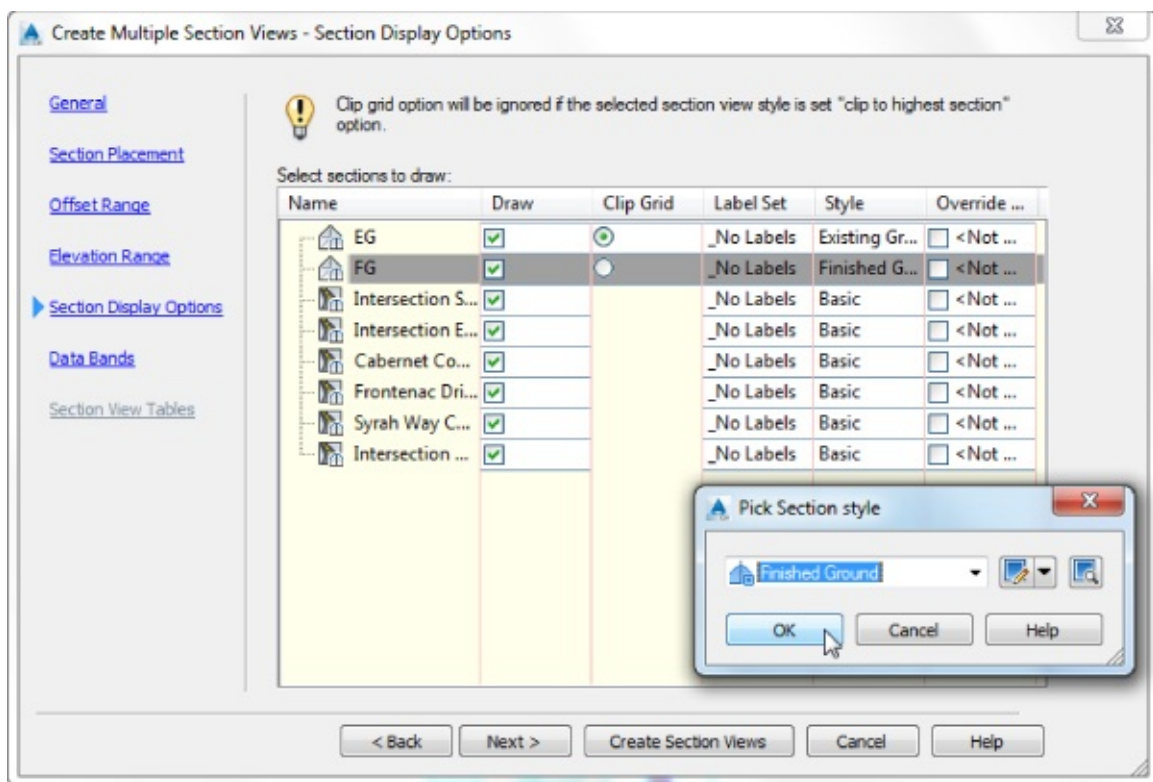

Figure 15.25 Changing styles in the Create Multiple Section Views – Section Display Options wizard page
- b. Verify that in the Style column the style for EG is set to Existing Ground, the style for FG is set to Finished Ground, and each of the corridor surface styles is set to Basic, as shown in Figure 15.25.